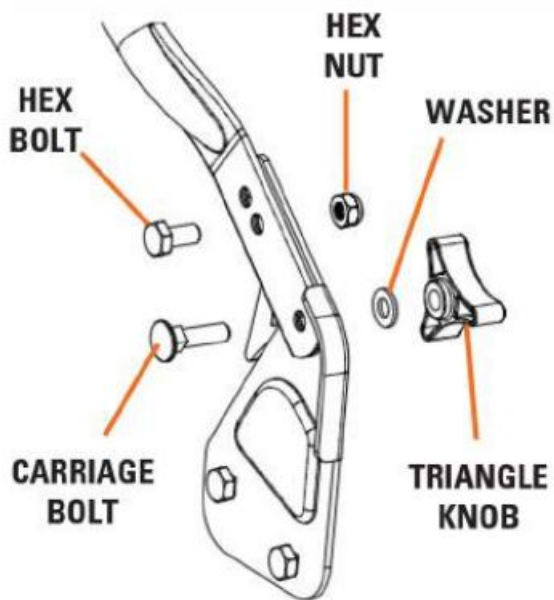

Figure 1
- Fold the lower handle upwards. Insert a hex bolt into the top hole and fasten it with a hex nut. Insert a carriage bolt into the bottom hole and secure with a washer and a triangle knob (see Figure 1).